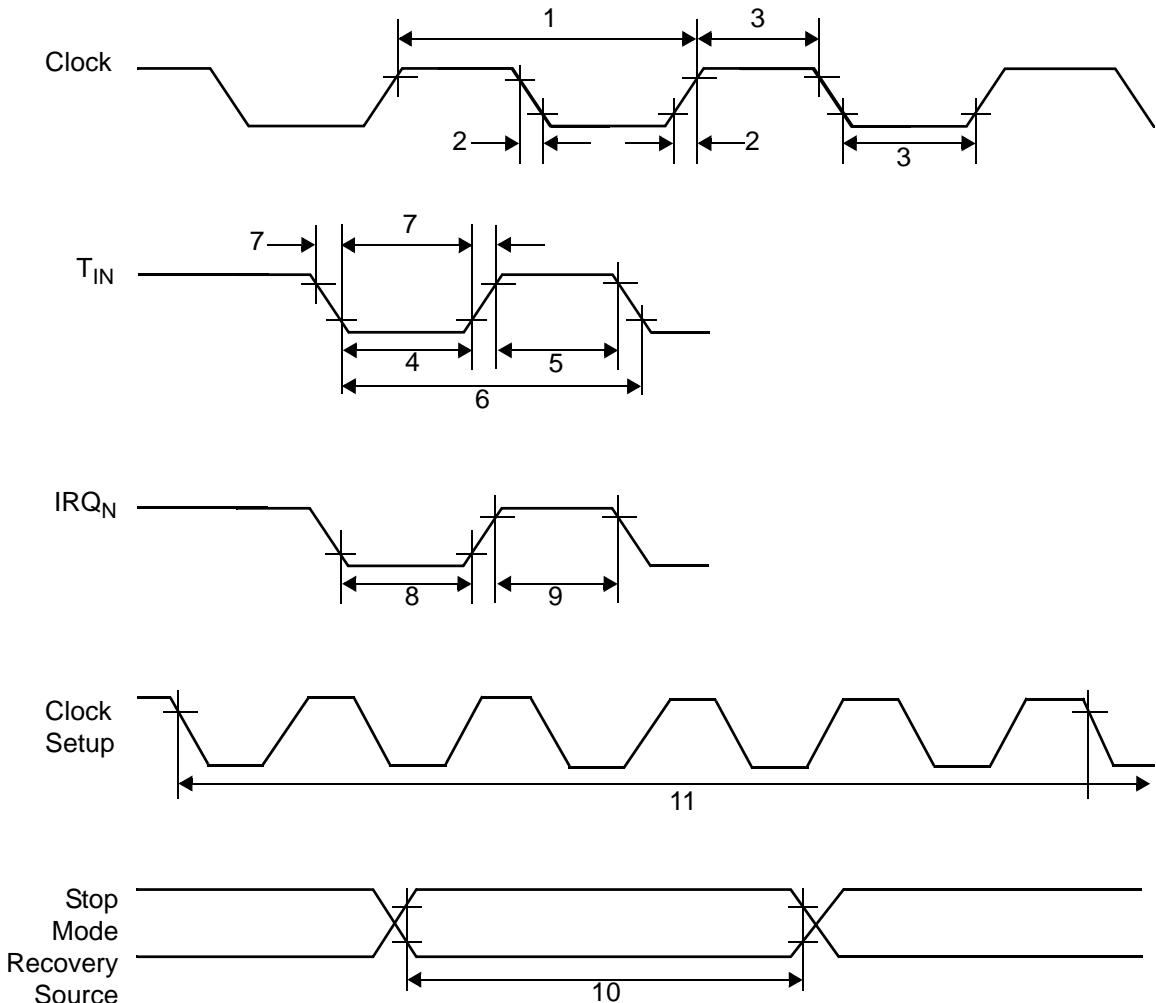

Figure 8. AC Timing Diagram
Figure 8 and Table 12 describe the Alternating Current (AC) characteristics.